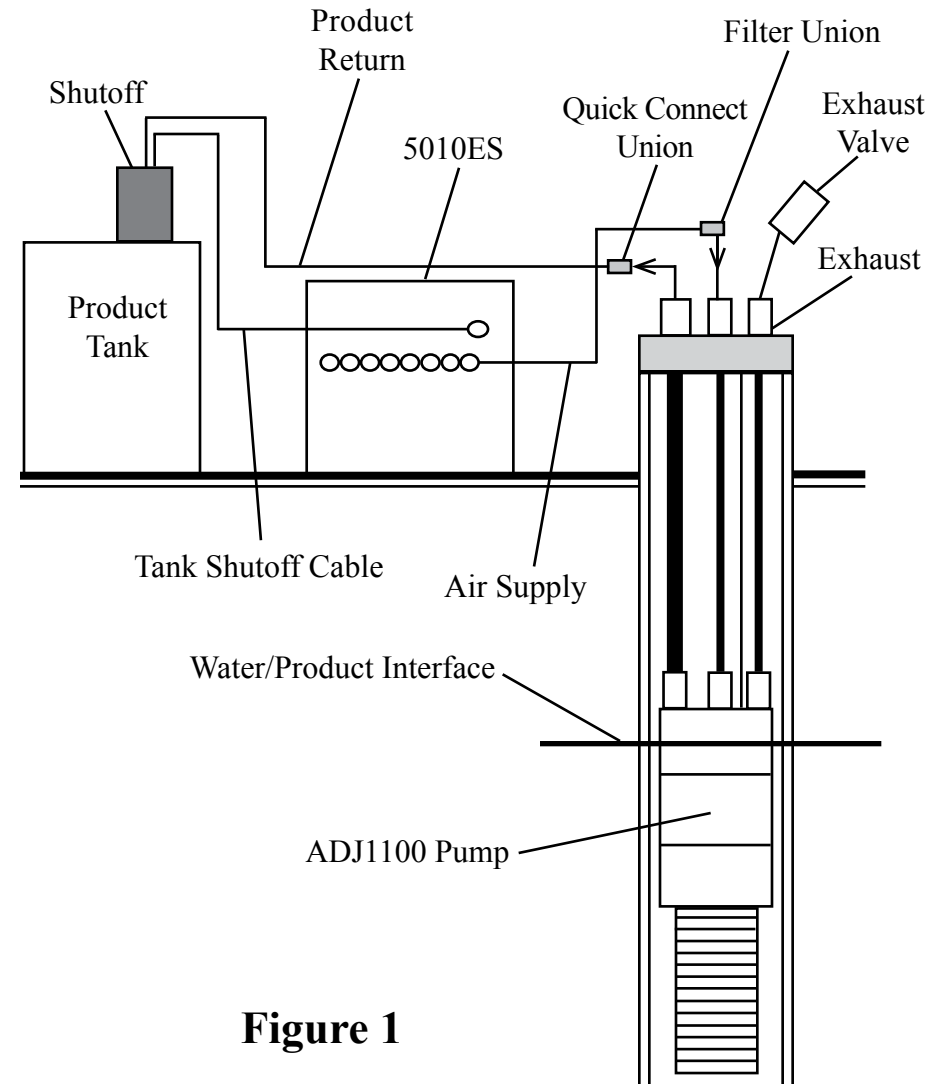
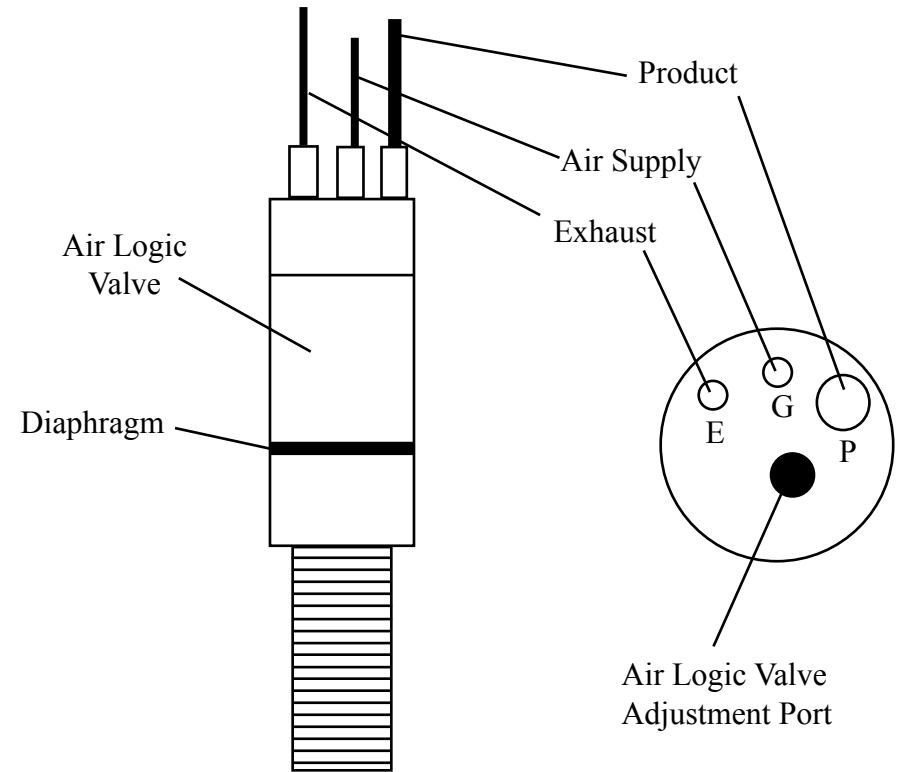

Figure 1
Figure 2
The system (Figure 1) relates to sinking DNAPL recovery in wells four inches in diameter and larger. This system includes: an intrinsically safe ADJ1100 pneumatic Smart Pump (Figure 2) which removes DNAPL down to 200 feet deep; and a programmable Control Station Model 5010ES which operates up to 8 pumps intermittently, records run time, and has a high level tank shutoff.
STEP 1. Place programmable Control Station Model 5010ES (Figure 1) near the air source, power source, and holding tank if possible. **CAUTION:** The standard electronic controller is NOT intrinsically safe. If this controller must operate in a CLASS I area, the XITECH Model 2550ES CLASS I controller will be required.
STEP 2. Install holding tank shutoff assembly into holding tank (a 2" standard pipe inlet will be required in the holding tank). The level of product in the holding tank can be set by raising or lowering the liquid level float switch rod. Plug the high level shutoff switch cable connector into the left end of the controller (Figure 1).
STEP 3. Attach power line from the AC power source to the right end of the control station (Figure 1). Turn on the controller power switch. If the red "Product Tank Full" light stays on, you have a problem with tank shutoff wiring. Turn off the power switch and re-check the tank shutoff wiring. If the light continues to stay on, call the factory.
STEP 7. Position the pump and well cap on the ground near the well. Cut a length of 3/8" OD air supply tubing to cover the distance from top of the well down to the bottom of the well, plus 5 feet. Slide enough tubing through the well cap to position the pump at the bottom of the well and attach the end of the tubing to the top of the pump tube fitting labeled "G" (Figure 2).
STEP 8. Cut a length of 1/2" OD product tubing same length as the air supply line. Install 1/2" OD product tubing through the well cap tube fitting labeled "P" (Figure 2). Slide enough tubing through the well cap and attach the end of the tubing to the top of the pump tube fitting labeled "P". **CAUTION:** Do not kink the tubing.